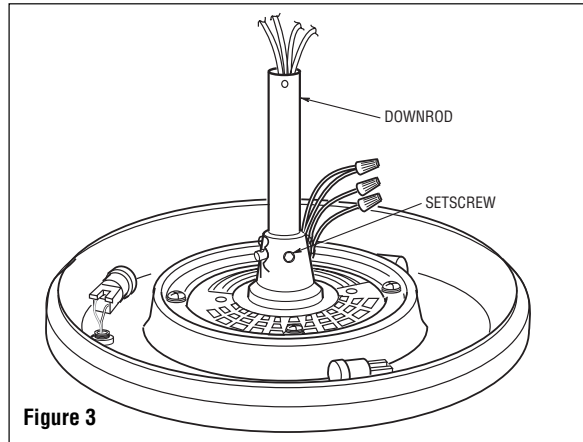

Figure 3
6. Install the setscrew (supplied in loose parts bag) in the motor coupling and tighten using the 5/32" setscrew wrench (supplied) (Figure 3).